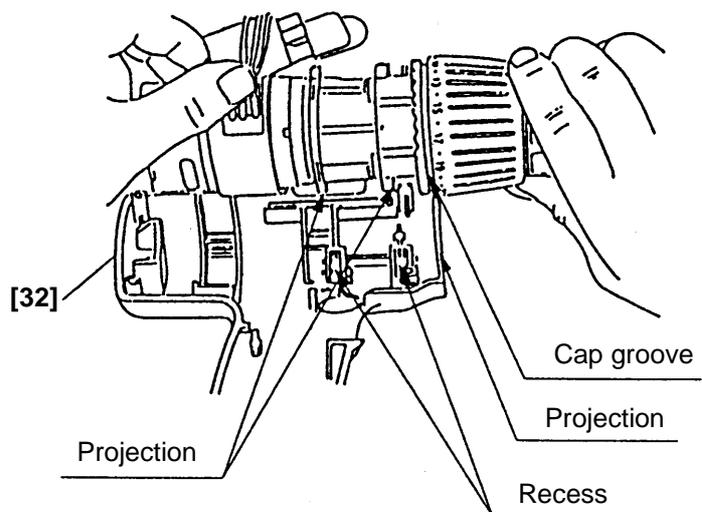

Fig. 18
Note that the projections on the Front Case [9] and the Motor Spacer [26] are engaged in the recess in Housing (A) [32] and the groove in the Cap [4] is engaged in the projection on Housing (A) [32]. (See Fig. 18)